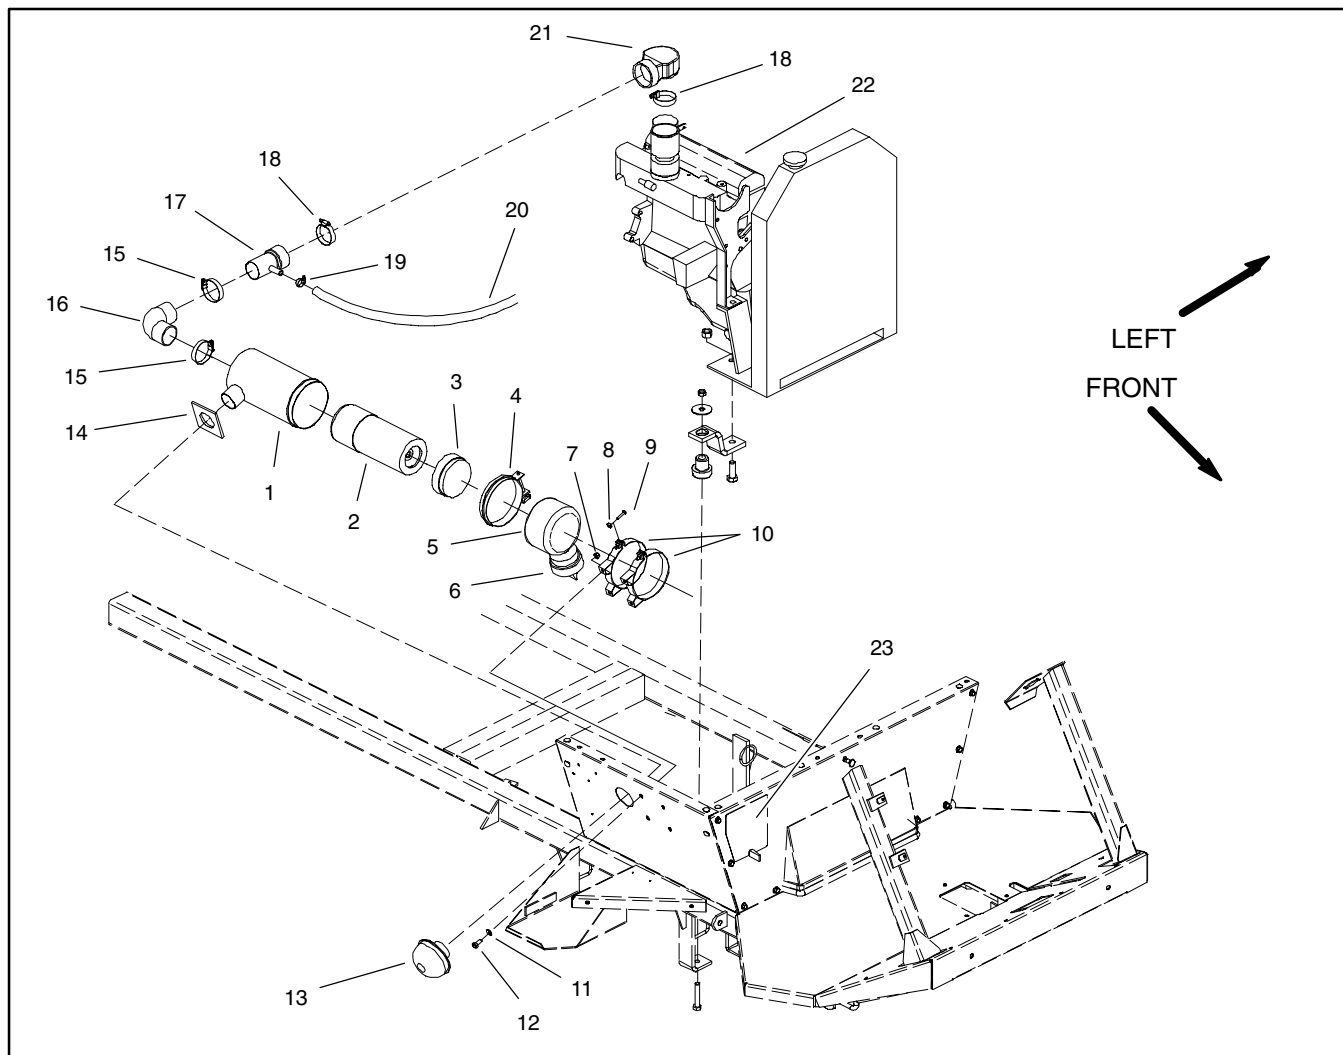

Figure 11
### Removal (Fig. 11)
2. Remove air cleaner components as needed using Figures 11 and 12 as guides.
### Installation (Fig. 11)
1. Reassemble air cleaner system using Figures 11 and 12 as guides.